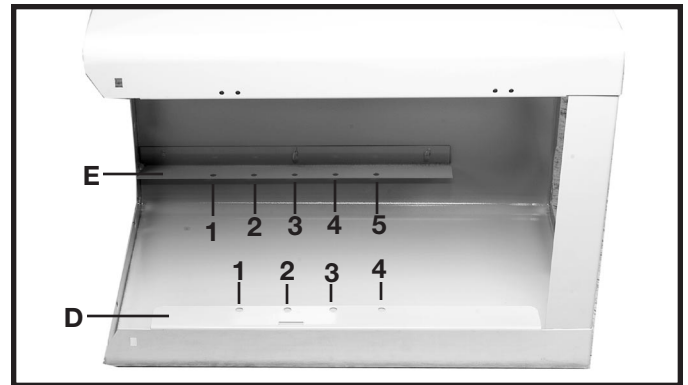
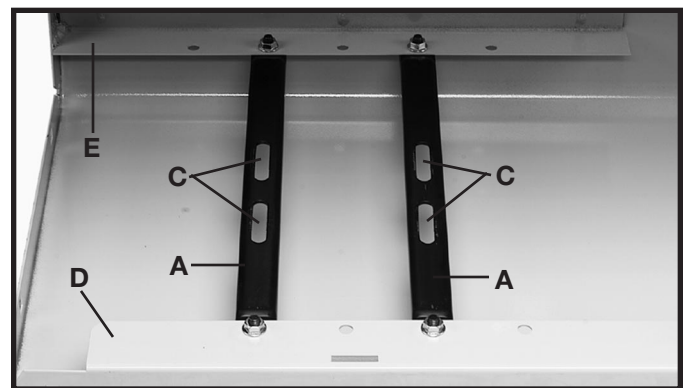

Fig. 6
Fig. 7
1. Place the stand base on its side as shown in Fig. 6.
2. Align the two holes in the motor bracket (A) Fig. 7, with the two holes in the stand. **NOTE: ATTACH MOTOR BRACKETS TO HOLES #1 AND 3 IN FRONT STAND FLANGE (D) FIG. 6, AND HOLES #2 AND 4 IN BACK STAND FLANGE (E).**
NOTE: MAKE SURE THE SLOTS (C) FIG. 7, IN THE MOTOR BRACKET (A), ARE POSITIONED CLOSER TO THE OPENING OF THE STAND (D) THAN THE BACK PANEL (E) OF THE STAND.
3. Insert a 5/16-18x3/4" carriage head bolt through the hole in the motor bracket (A) Fig. 7, and the hole in the stand.